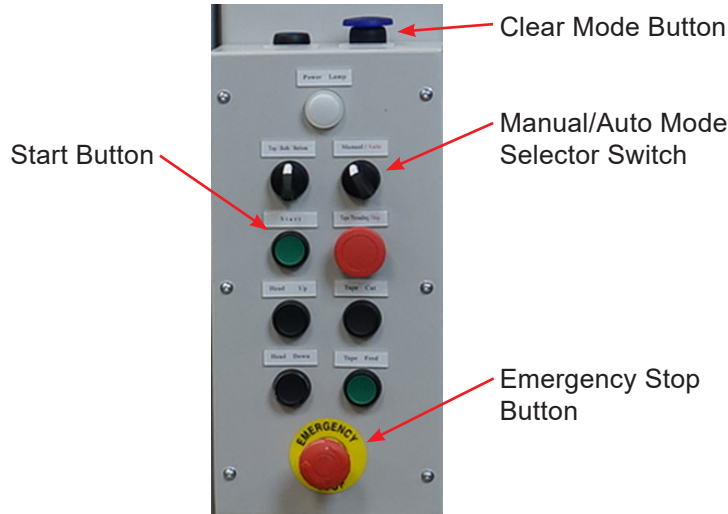

Figure 40: Operator Control Panel
The RSA 3023-WAT-SBHS Case Sealer has four operating modes. The operator selects these modes, using the 2-position switch, push button on the Control Box (refer to Figure 40), and foot switch.
2. Turn the Manual/Auto selector switch on the control box to Auto (Automatic) (refer to Figure 40).
2. Turn the control selector to Manual mode (refer to Figure 40).
2. Press downward on the Clear mode button, at the top of the control box, to set machine to clear mode (refer to Figure 40).